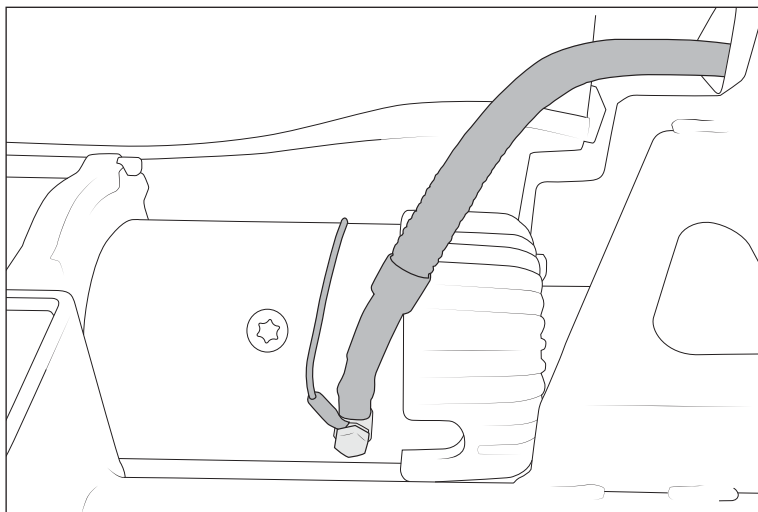

Figure 19
- C. Attach ground wire (fig. 19).